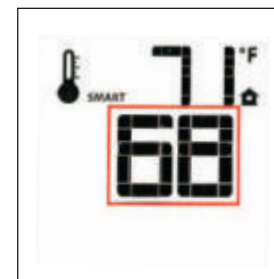

Figure 64. Smart Set Temp.
- To adjust the temperature, press the Up or Down Arrow Keys until the desired Set Temperature is displayed. Fig. 64.